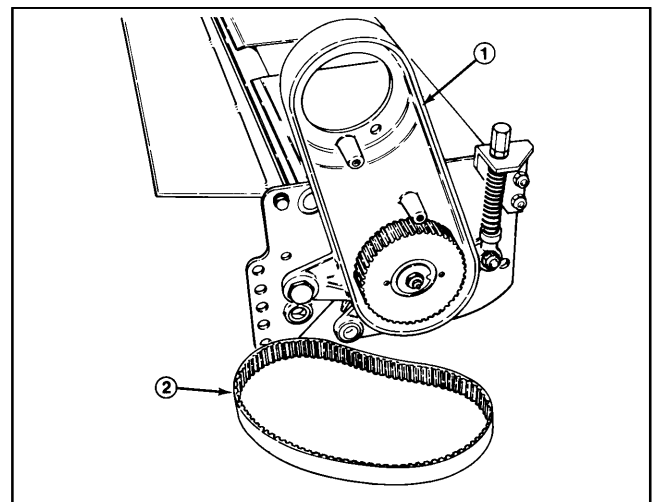

Figure 22
4. Disassemble cone nut from the shoulder bolt securing the bearing housing to the side plate. Remove belle-ville washer and bolt. Slide bearing housing off the reel shaft (Fig. 22).
5. Disassemble cone nut from the shoulder bolt securing the bearing housing to the side plate, remove the belle-ville washer and bolt and slide the bearing housing off the reel shaft (Fig. 22).
10. Ensure slot in the pulley washer is aligned with the roll pin in the pulley and install the washer, toothed washer and reel capscrew (Fig. 22). Apply a medium strength thread locking compound to the reel capscrew during assembly. Torque the capscrew to 45 to 55 ft-lb (6.2 to 7.6 kg-m).